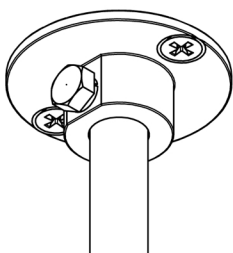
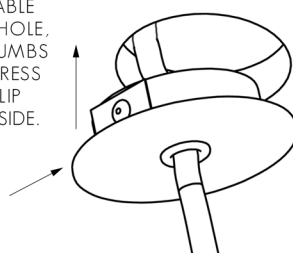

FIG. 6 - INSERT CABLE BASE IN TO CEILING
FIG. 7 - SURFACE MOUNTED VERSION OF CABLE BASE
1. LIFT LIGHT ASSEMBLY UP TO CEILING AND MARK LOCATIONS OF RODS ON CEILING. USE MARKINGS TO CUT 47-48MMØ HOLES FOR CABLE BASES. (RECESSED VERSION ONLY - SEE FIG. 7 FOR SURFACE MOUNTED VERSION).
5. PUSH CABLE BASE INTO HOLE IN CEILING (SEE FIG. 6 OR FIG. 7 FOR SURFACE MOUNTED CABLE BASE).